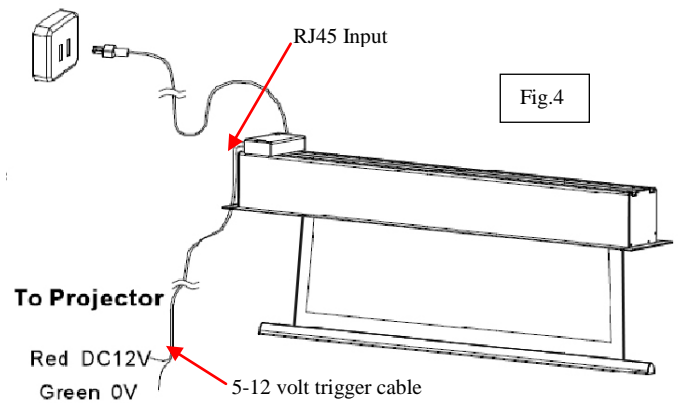

Fig.4
**5. 5-12 volt trigger (Item D, Fig 4):** The built-in 5-12V trigger input allows your screen to synchronize its drop & rise with the projector's power cycle. The screen deploys when the projector powers up and will retract when the projector powers down. The 5-12 volt RJ45 cable connects to your projector's trigger output via a separate cable. This may or may not be provided with the projector. The trigger feature will not work without an output cable from the projector, but it can be tested by connecting the Red (+) and Green (-) wire connections to a 9-volt battery.